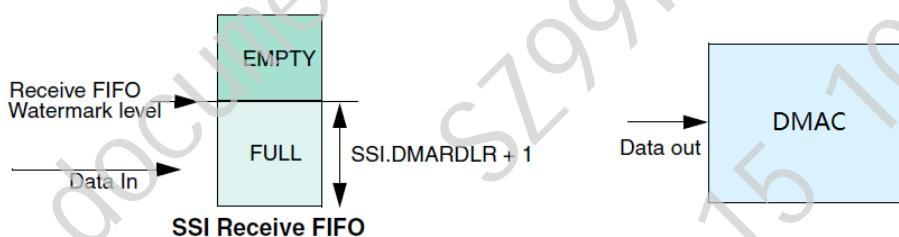

Fig 9-41 SSI receive FIFO
Similar to choosing the transmit watermark level described earlier, the receive watermark level, $\text{SSI.DMARDLR} + 1$, should be set to minimize the probability of overflow, as shown in Fig 9-41. It is a trade-off between the number of burst transactions required per block versus the probability of an overflow occurring.
As can be seen in Fig 9-41, programming a source burst transaction length greater than the watermark level may cause underflow when there is not enough data to service the source burst request. Therefore, equation (15) below must be adhered to in order to avoid underflow.
Note: The SSI receive FIFO is not empty at the end of the source burst transaction if the SSI has successfully received one data item or more on the SSI serial receive line before the end of the burst, as illustrated in Fig 9-41.